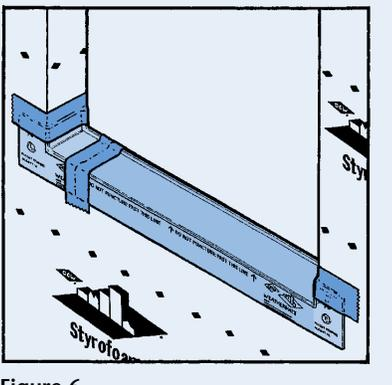

Figure 6
- d. Seal overlap seam and top edge of corner pieces with WEATHERMATE™ Flashing, as shown (Figure 6).